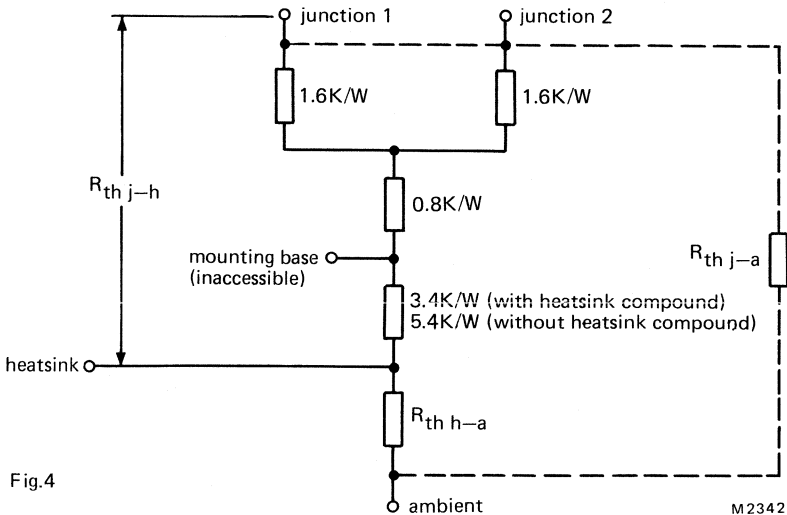

Fig.4
- a. The various components of junction temperature rise above ambient are illustrated in Fig.4: